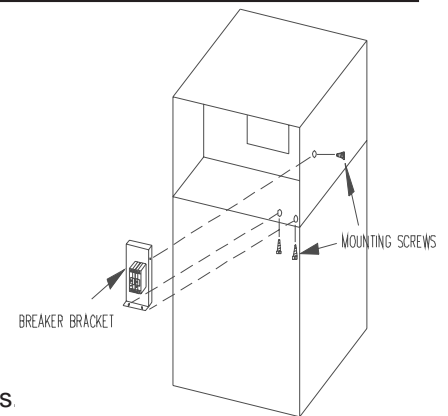

Fig. 1
9. **AIR HANDLERS:** Mount the circuit breaker mounting bracket in the upper right side corner of the cabinet. Insert the mounting screws through the blower deck from the blower side and from the side panel of the cabinet (see fig 1).